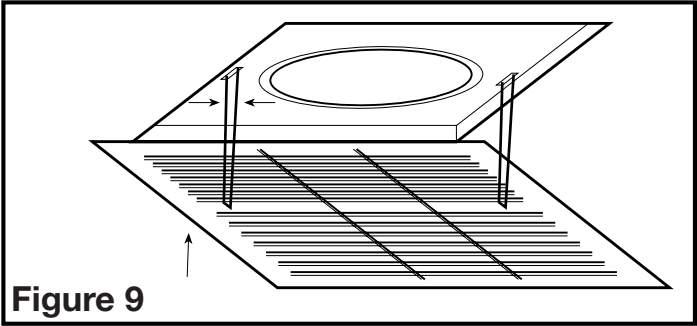

Figure 9
- 2. Install the grill by squeezing the two ends of the springs together and installing them up into the slots of the fan's venturi. Push the grill up into position (Figure 9).